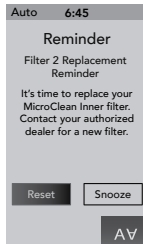

Figure 15.0e
- 23. **MicroClean Inner Filter Reminder:** This message will appear when the filter reminder time has expired (Figure 15.0e). The MicroClean Inner filter must be replaced.